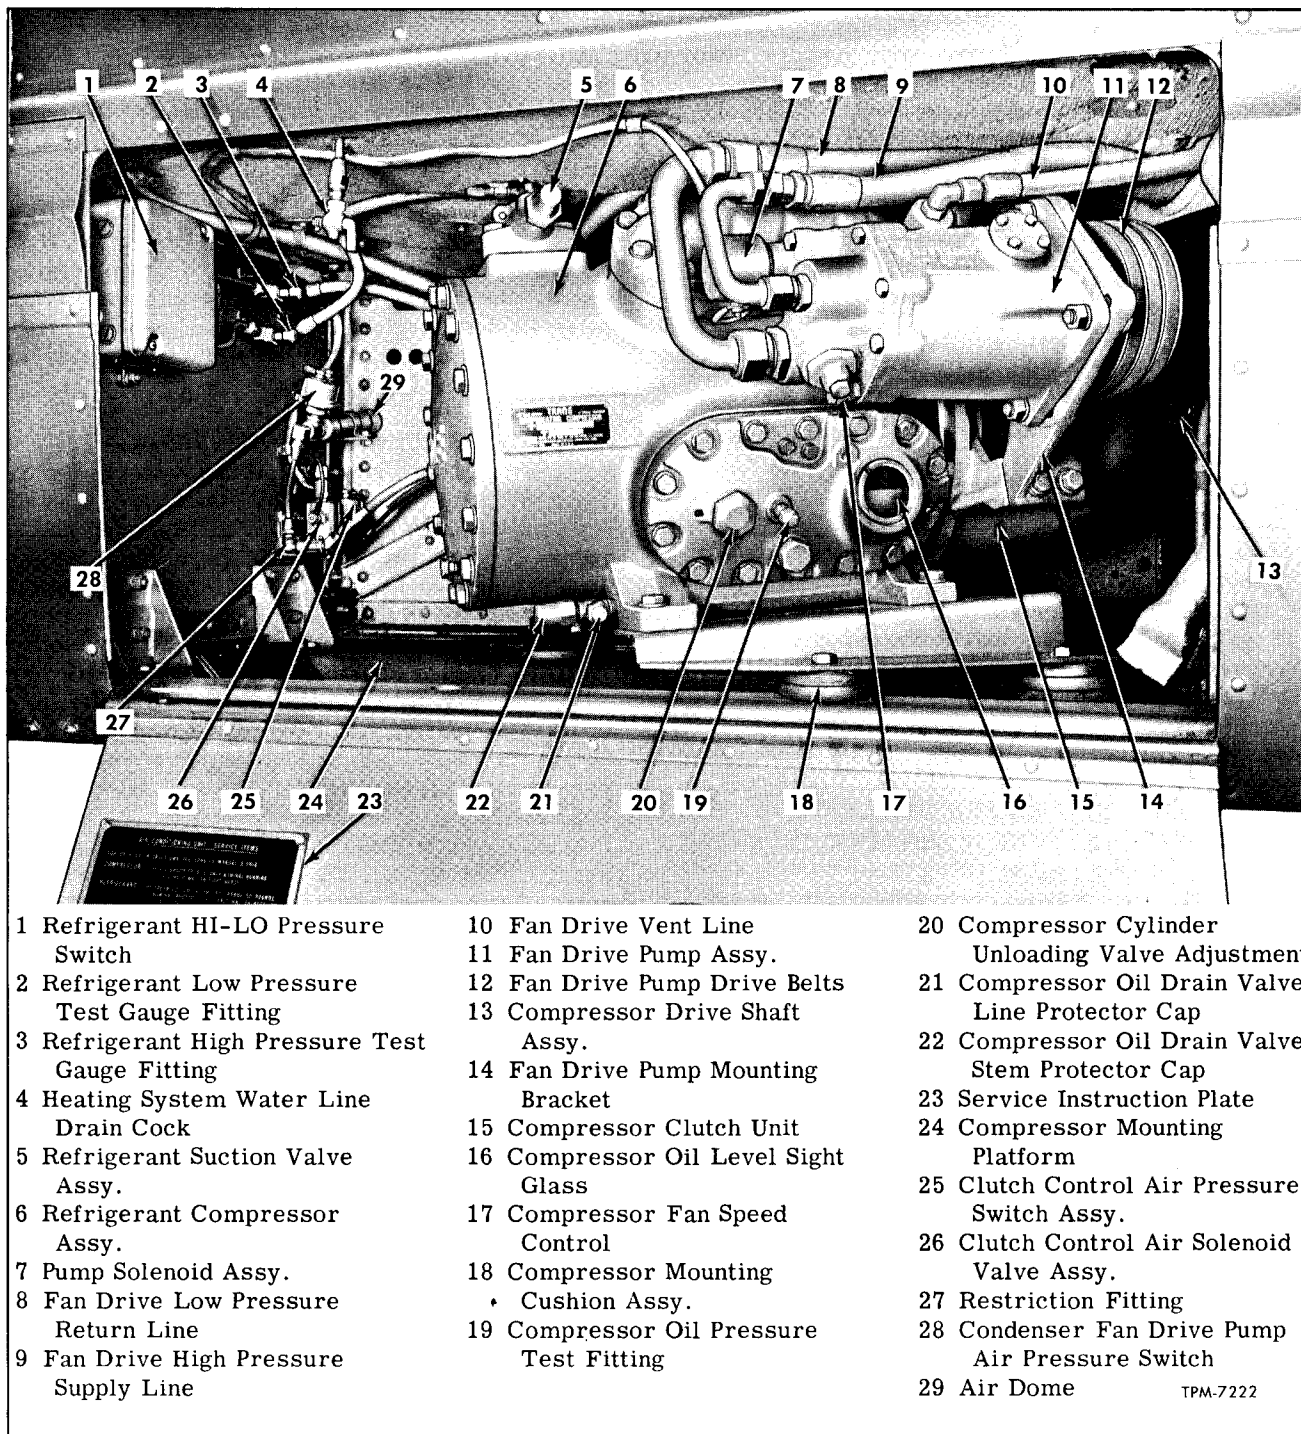

Figure 7—Refrigerant Compressor Compartment (Typical)
Definite high and low refrigerant pressures are established at which the system will operate efficiently and safely. "HI-LO" pressure cutout switch is provided to prevent operation of system when pressures exceed these limits. The switch is located in compressor compartment. On all models 4501, 4516, and 4517, switch is located on side of compressor, whereas on all models 5301 and 5302, the switch is mounted to bulkhead forward of compressor as typically shown in figure 7. Switch is connected to high and low refrigerant pressures at the compressor. Current from "VENTILATION" switch is routed through the "HI-LO" pressure switch. Whenever the high or low refrigerant pressure exceeds limits, switch interrupts compressor clutch controls to stop compressor. When this occurs, another set of contacts within control relay close to complete circuit from "VENTILATION" control switch to the A/C stop telltale on driver's panel. Telltale, when illuminated indicates that compressor is not operating. When refrigerant pressures normalize to the switch cut-in point, compressor clutch control circuit is again completed and the compressor becomes operative.
1. Remove cap from suction pressure line test gauge fitting (2, fig. 7); then connect pressure gauge line to valve. Have an assistant close suction valve slowly on top side of compressor by turning valve stem in (clockwise) until valve seats.
1. Remove cap from discharge pressure line test gauge fitting (3, fig. 7), then connect pressure gauge line to valve.